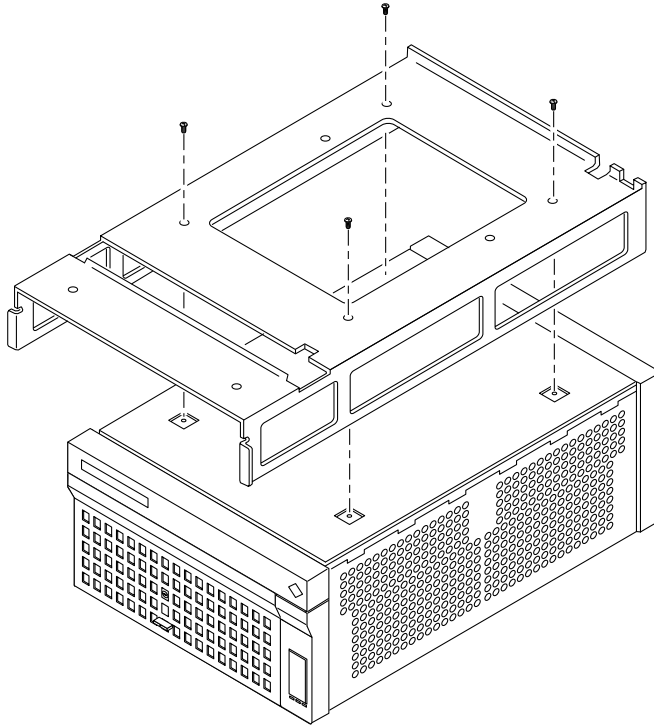

FIGURE 7-24 Removing the Baseplate From the Chassis
1. **With the aid of an assistant, invert the chassis with the front facing you (FIGURE 7-24).**